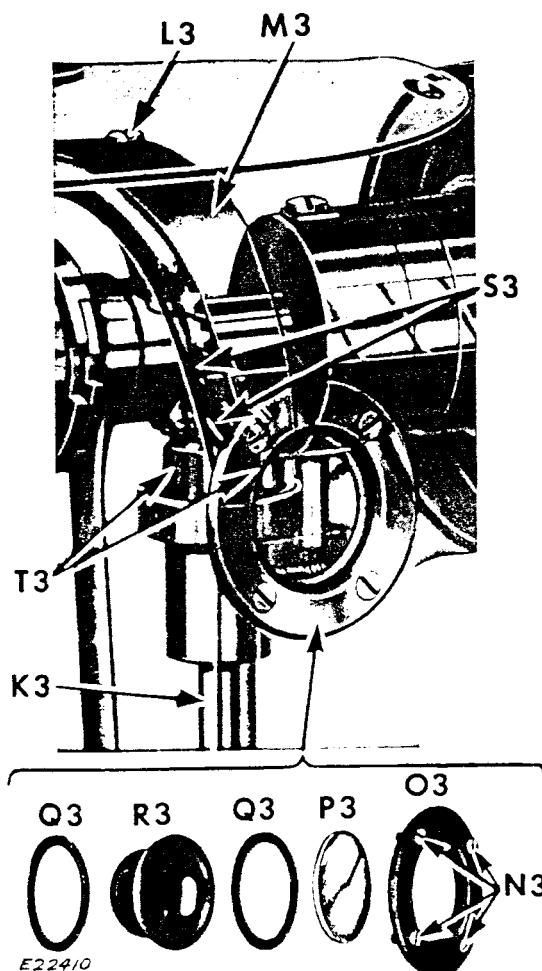

Fig. 50. Removing Upright Arm Shaft
(See Fig. 50)
2. Insert upright arm shaft up through upper bevel gear, as shown in **Fig. 50**.
6. Replace oil flow window assembly, in the order shown in **Fig. 50**.